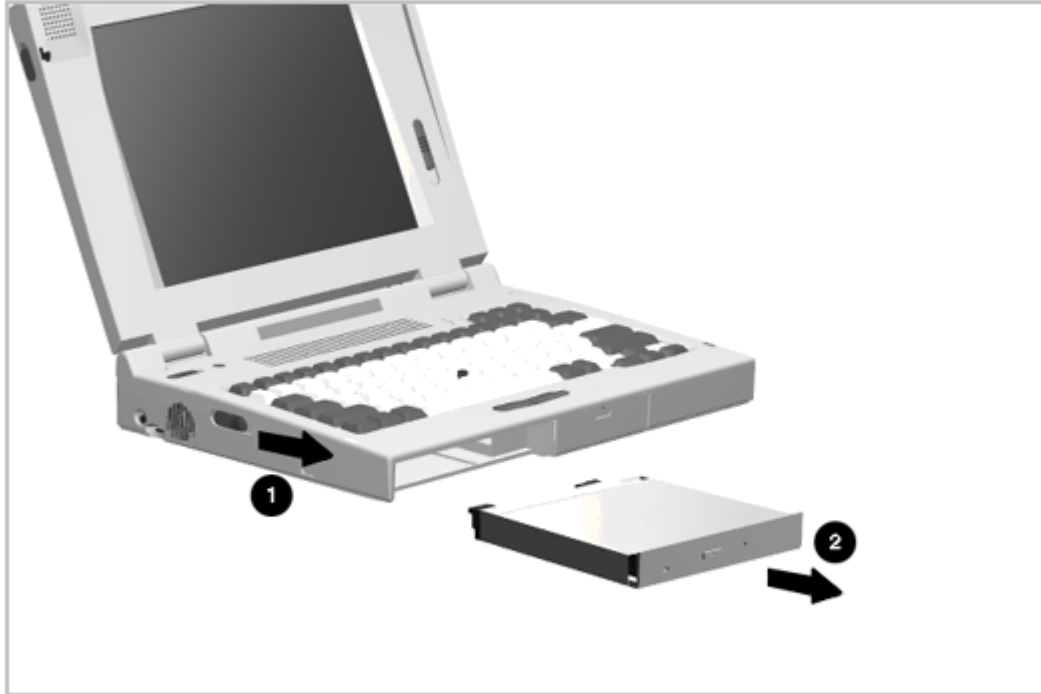

Figure 5-13. Removing a Device from the MultiBay
2. Push the MultiBay device release [1] toward the front of the computer and pull the device [2] out of the MultiBay (Figure 5-13).
1. Insert the device, with the label facing up and the connector/contacts facing the inside of the bay (Figure 5-13).